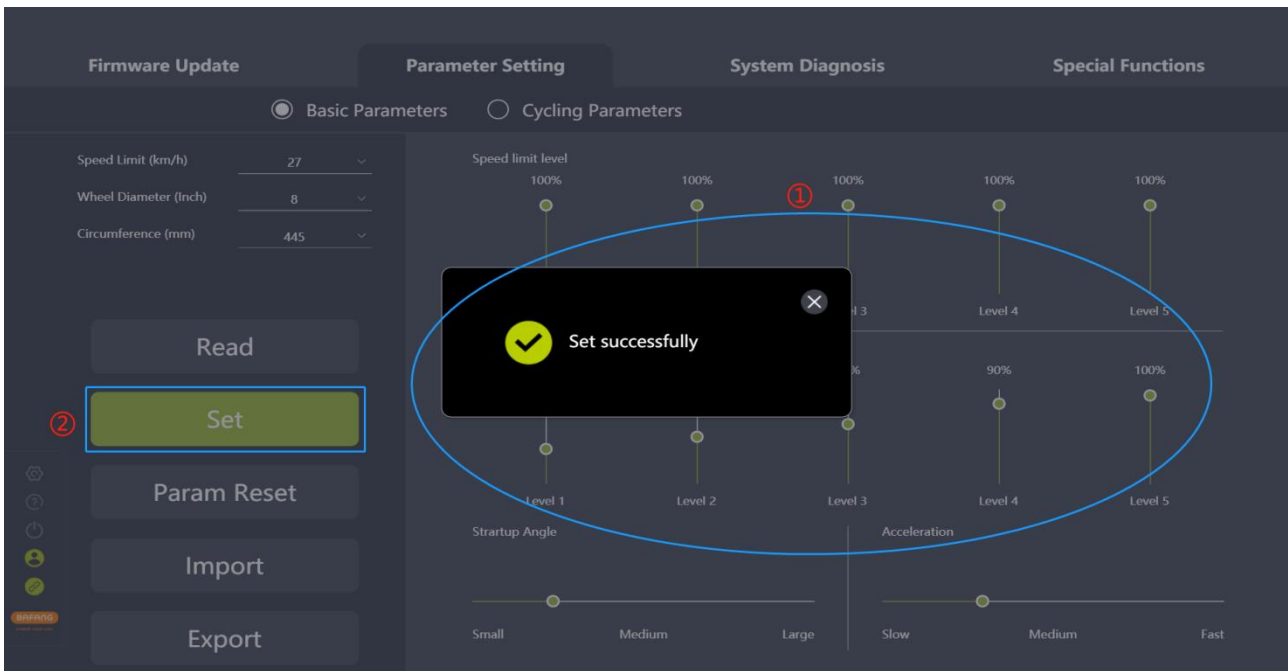

Fig. 5-6 Set parameters
(4) Parameters can be set after login account verification is approved (e.g. Fig. 5-6).